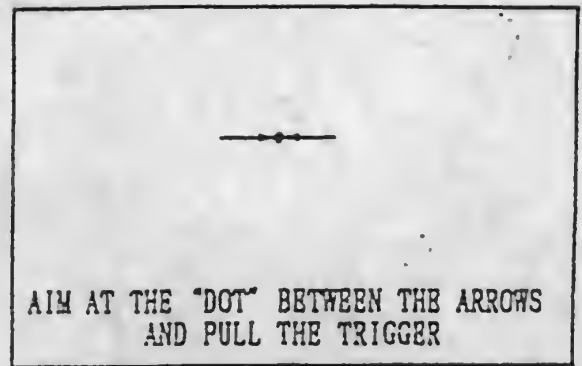

Fig. 16
- (4) When you are aiming the gun almost one second in the state of (3), the screen cursor comes between the arrows (—●—) as shown in Fig. 16.